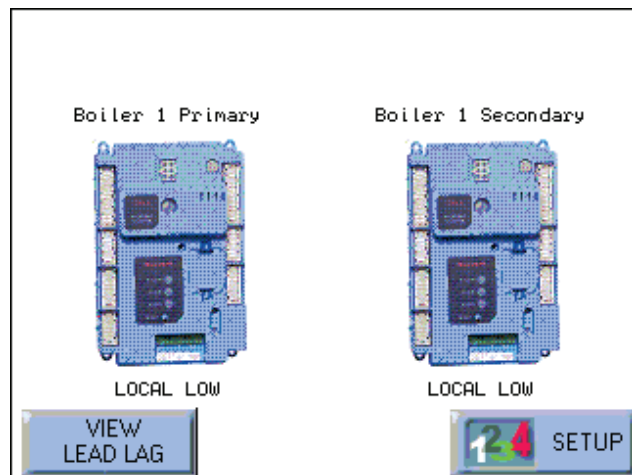

Fig. 28 - Home Screen
1. From the Home screen (Fig. 28), press the View Lead Lag button.